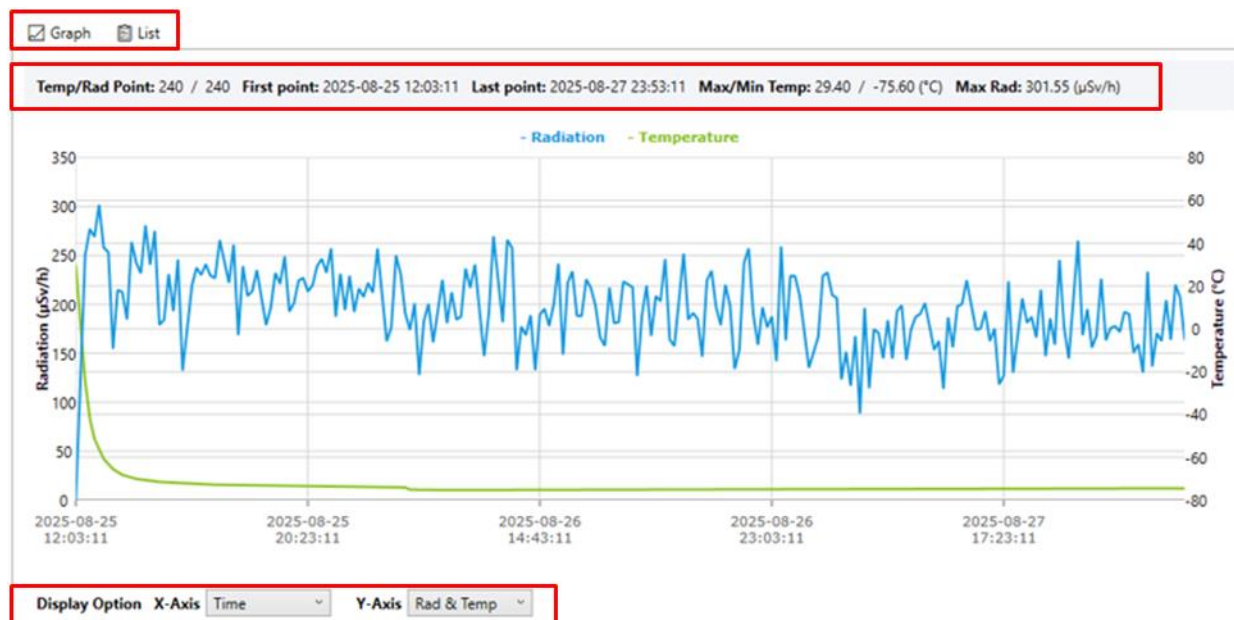

Figure 19. Graph of data log points
- **Graph View (Figure 19)** – Displays radiation and temperature trends over time in a visual chart.
The **Display Options** allow users to customize how logged data is shown in the Graph View (*Figure 19*).